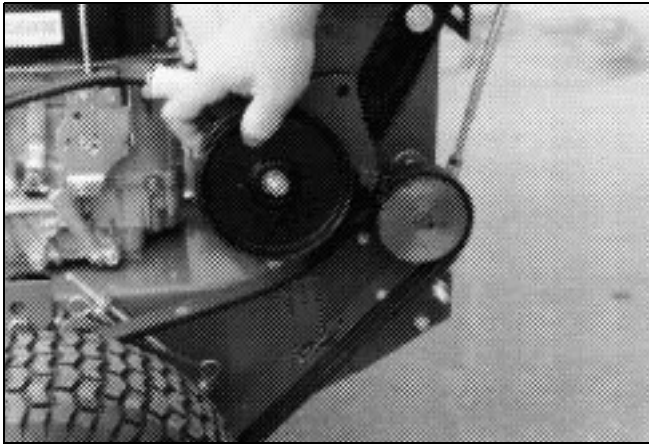

Figure 10
- d. Lift up on the idler bracket with one hand while removing the belt from the jackshaft pulley with the other hand. (See Figure 10.)